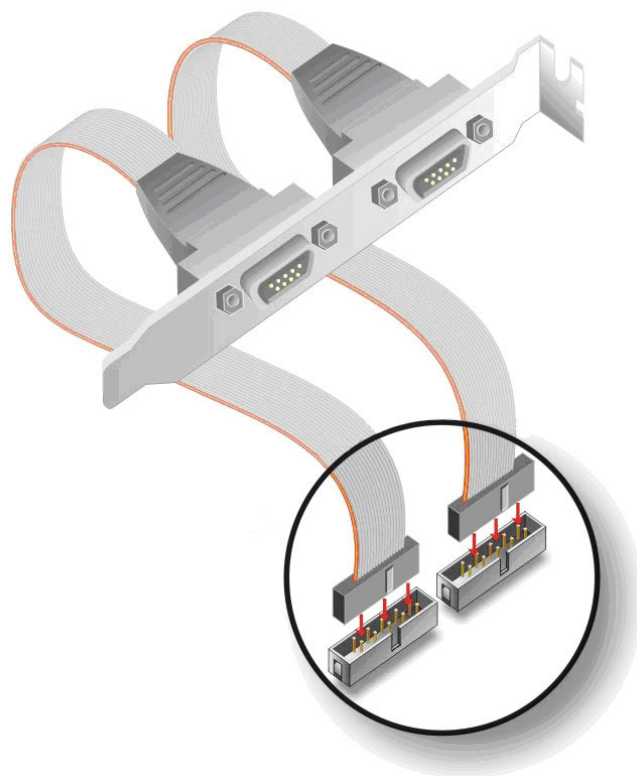

Figure 5-14: Dual RS-232 Cable Installation
Step 2: **Insert the cable connectors.** Insert one connector into each serial port box headers. See **Figure 5-14**. A key on the front of the cable connectors ensures the connector can only be installed in one direction.